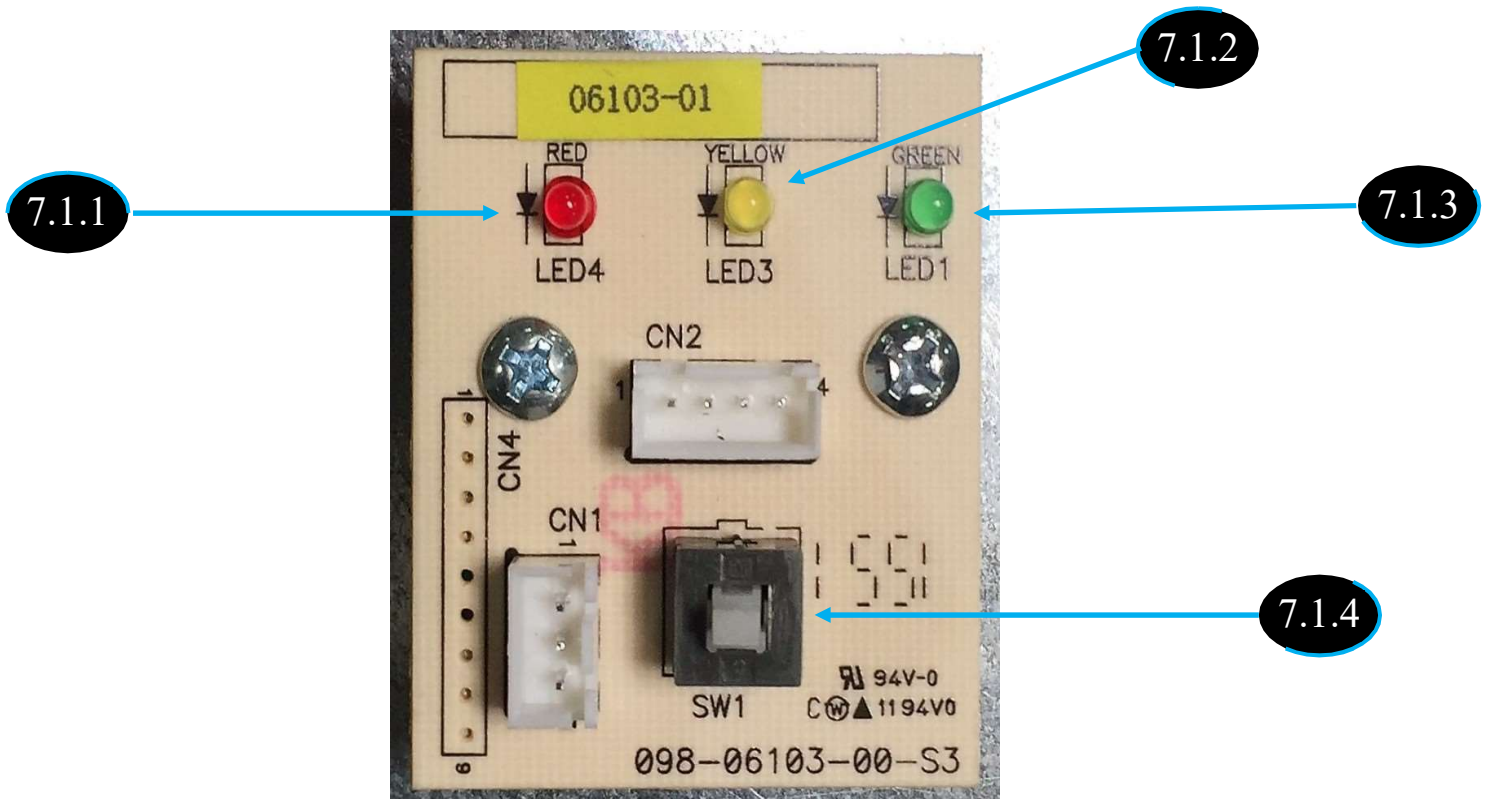

Figure 4
Refer to Figure 4 for descriptions of the Display Panel's button and indicators.
8.1.5.2. The Processor perform a series of checks (These checks will be indicated by a delay in the red LED extinguishing and the green LED illuminating (see Figure 4).